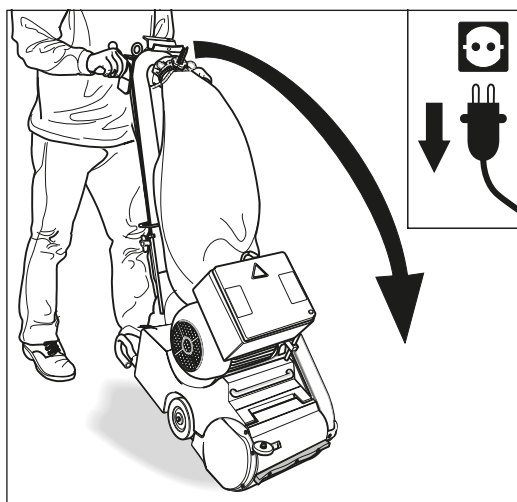
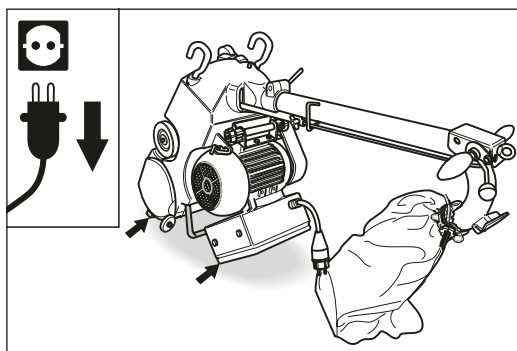

Fig. 78 Pull the power plug out of the socket! Tilt the machine forward.
Fig. 79 Place the machine carefully on the floor. Ensure that the machine is standing securely!
- 3 Tilt the machine forward (fig. 78) and place it down carefully on the floor (fig. 79). **Ensure that the machine is standing securely!**